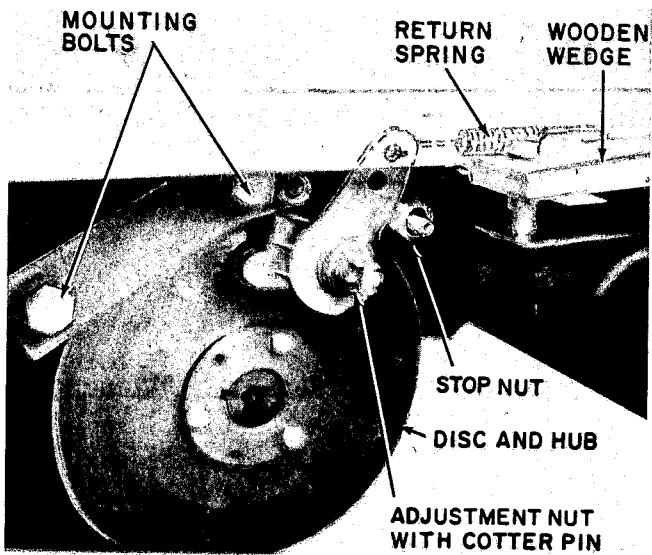

Fig. 2 Old Brake Unit
axle mounting pad and the frame. It may be necessary to tap a wooden wedge in place to gain accessibility to brake mounting bolts. (See Fig. 2.)
7. Unhook the pedal return spring from the tractor frame and actuating lever. (See Fig. 2.)